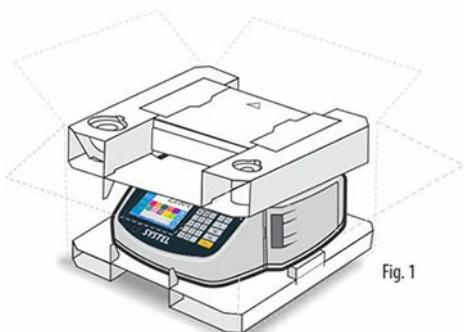

Fig. 1
2. Remove the stainless steel platter together with the label roll and continuous paper (Figure 1).